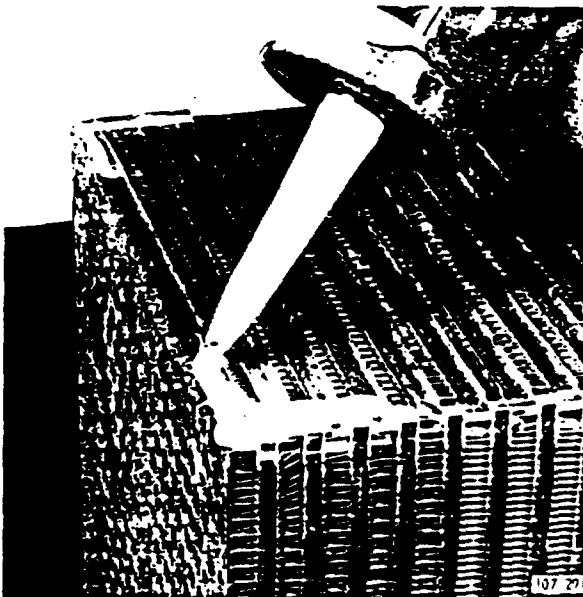

Figure 2-397. Applying Agent to Core
3. Run a bead of silicone rubber bonding agent on the corners of the core. See Figure 2-397.